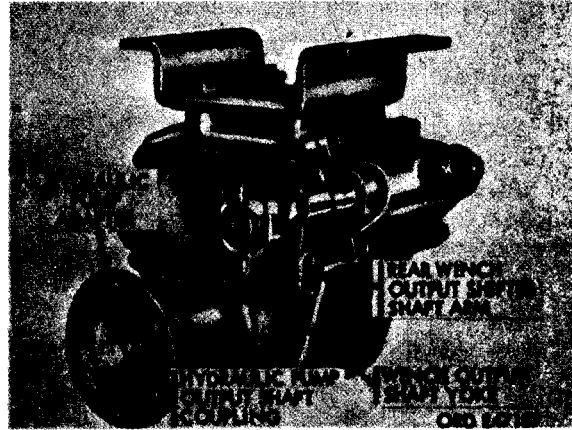
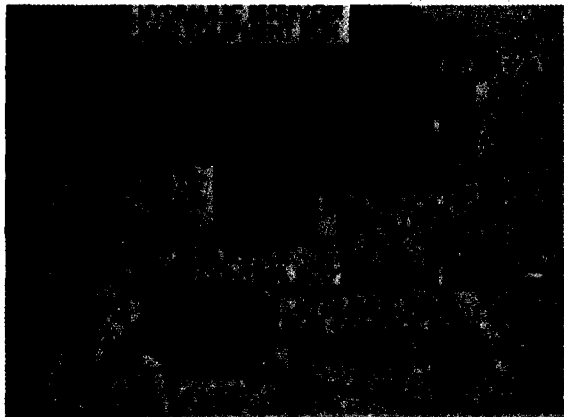

Figure 398. Rear view of power divider removed from vehicle
Figure 397. Hydraulic reservoir with power divider, pump, and relief valve removed from vehicle (M62)
b. Hydraulic Pump and Relief Valve. The flange-mounted vane-type hydraulic pump (fig. 397) is bolted to the hydraulic pump adapter (fig. 398) mounted on the rear of the power divider. The hydraulic pump output shaft coupling (fig. 398) is keyed to the power-divider output shaft and to the hydraulic-pump shaft. The adjustable relief valve assembly (fig. 397) is connected to the hydraulic pump outlet port. The purpose of this valve is to protect the crane hydraulic system from excessive (above 1200 psi) pump pressures.
q. Power Divider Assembly. The power divider assembly (figs. 398 and 411) is a single speed gear box with one input (drive) shaft and two output shafts. It is mounted by a bracket to the bottom of the hydraulic reservoir (fig. 397). The drive shaft yoke (fig. 411) is connected by a propeller shaft and universal joint to the power takeoff mounted on the rear of the transfer. The winch output shaft yoke (fig. 398) is connected by a universal joint to the front end of the rear winch front propeller shaft. The hydraulic pump output shaft is connected by a coupling (fig. 398) to the hydraulic pump input shaft. When the hydraulic pump control lever is in the DISENGAGE position, the air passages inside the governor-valve control